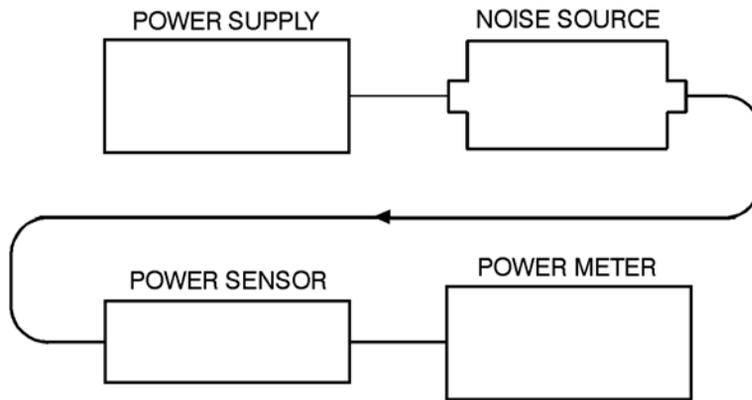

Figure 4-2 Operator's check test setup 1
- 1 Connect the equipment as shown in **Figure 4-2**.